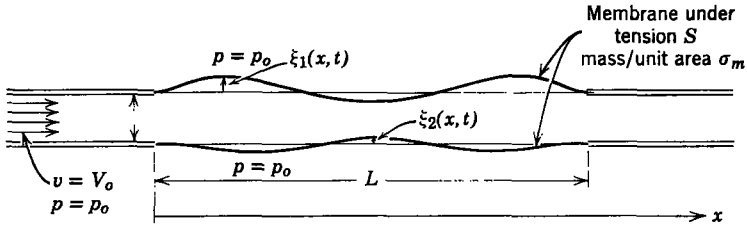

Fig. 12P.13
12.13. A duct is formed by stretching membranes between plane parallel rigid plates, as shown in Fig. 12P.13. An inviscid fluid flows through this duct, entering at the left with velocity V_o . The pressure outside the duct is p_o , so that the membrane can be in static equilibrium with $\xi_1 = \xi_2 = 0$.